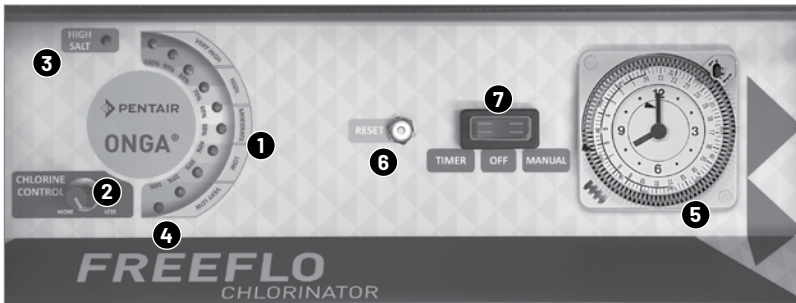

Fig.2
All Pentair Onga FREEFLO Chlorinators are fitted with a 240v 10A power socket located on the right hand underside of the power pack. Your pool pump should be plugged into this socket so that the chlorinator and pump activate together when the timer switches on at the allocated time settings or in a model without a timer the pump and chlorinator is controlled by the on/off switch. (7 in fig 2). Failure to plug the pool pump into this socket could lead to the chlorinator staying on with no water circulation. In case of water probe failure, over heating and a possible gas build up may occur. Please see fig.2 below in regards to function control.
1. Chlorine Output LEDs - Fig.2: If the correct salt level is in the pool then all 10 lights will illuminate. Each light represents 10% chlorine output. If all lights are not illuminated then a higher salt level will be required. Make sure all salt is dissolved properly before adding more. The chlorine control, (2 in fig. 2), will increase or decrease the chlorine output to suit your chlorine demand. If all of the indicator lights flash then there is a water fault problem.
2. Chlorine Control - Fig. 2: The chlorine controller determines the amount of chlorine production. By simply turning the control anti-clockwise you increase the chlorine output and by turning the control clockwise you reduce the chlorine output. Do not force the control past its stop as this will damage the unit and void warranty.
3. High Salt Light - Fig. 2: This light is a red warning indicator and will only illuminate when the salt level in the swimming pool is higher than 4500 parts per million. If this light is on, decrease the output by turning the chlorine control, (2 in fig.2), clockwise until the high salt (red light) goes off and the 10 chlorine output LEDs are on (1 in fig 2). If this light is the only one illuminated then the unit has gone into over temperature cutout and will reset once back to normal running temperature.
4. Polarity Light - Fig. 2: The polarity light is the first indicator light, 10% in the chlorine output array, (4 in fig.2). This light will alternate between orange and green every reversing cycle, 4-12 hours. Factory setting is a 12 hour cycle.
5. Timer - Fig. 2: The time clock is designed for control of the chlorinator and circulation pump.